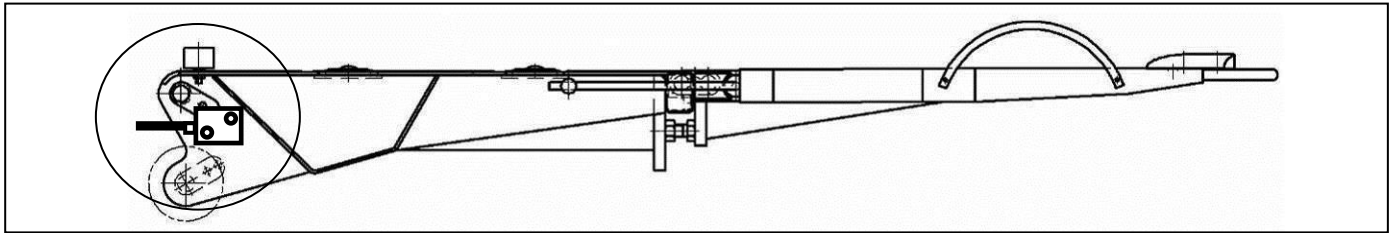

Figure 18 B-15 adjustment on platform
- Fold down Lock Tab tightly onto Lift Arm (see Figure 18).
- Mount the platform sensor B-15 to the right-hand side of the platform as shown in Figure 18. Make sure to loop wire around to give it enough slack in normal operation and route clear of any pinch points.